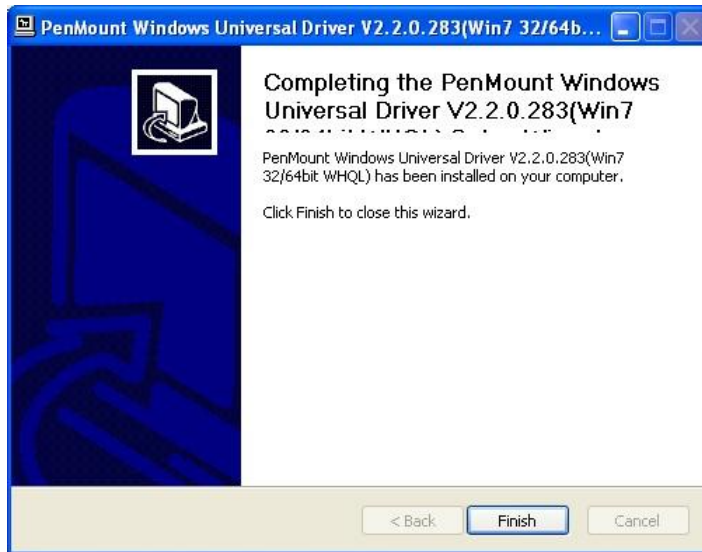

Figure 5-5: Finish Installation
Step 11: When the installation is complete, the complete screen appears. See Figure 5-5.